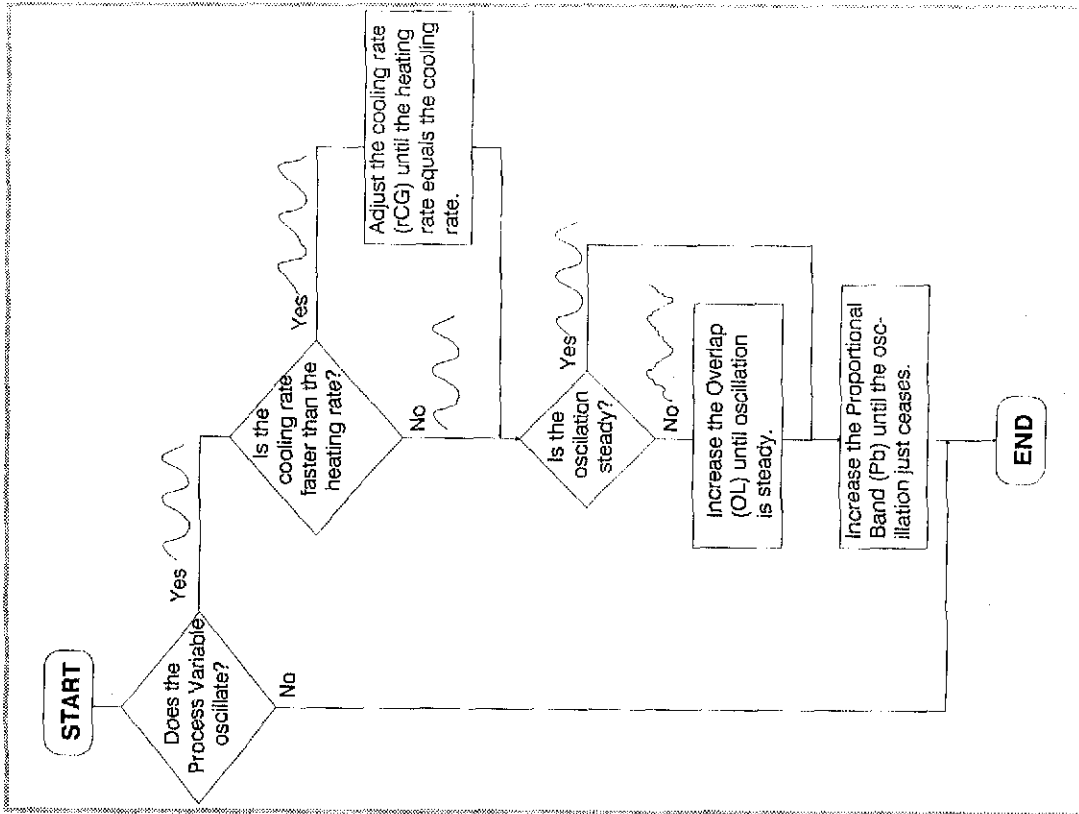

Figure 4-3 Tuning - OP 1 & OP 2 Fitted
5. Follow the instructions in Figure 4-3.